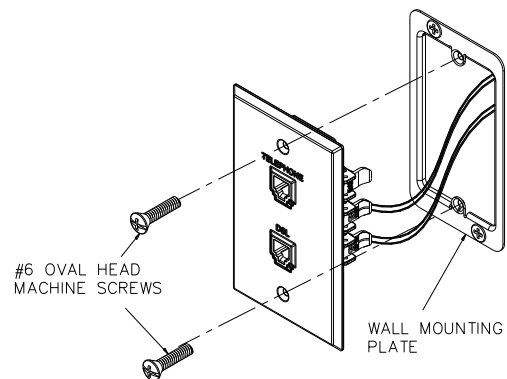

Figure 6
3. Dress the wires properly inside the wall mounting plate and secure the 761-4T-12, 761-4T-12K to the wall mounting plate using the supplied #6 oval head screws (See Figure 6). The 761-4T-12K also includes (2) #6 x 2" lg. oval head screws with ferrules.